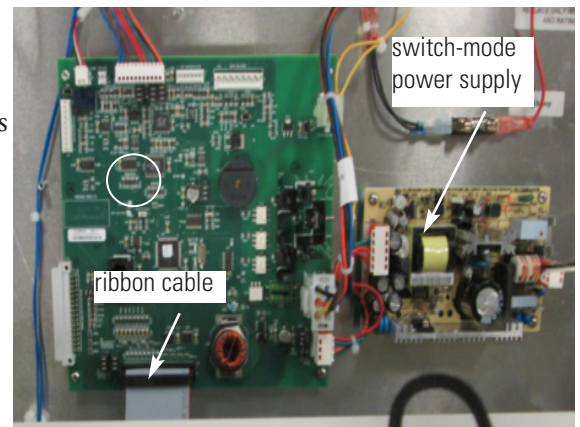

Figure 2. Connection Locations
5. Disengage the ribbon cable from the board. Detach all connections. Note connection locations for reinstallation. See Figure 2.